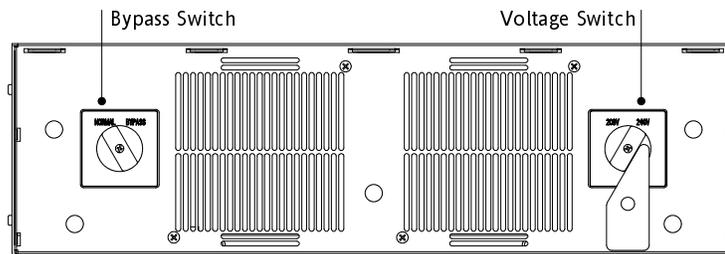

Figure 7. PDM (with Front Panel Removed)
3. Verify that the Bypass switch on the PDM is in the NORMAL position (see Figure 7).
4. **For 208V input only.** If you need 240V output with a 208V UPS input voltage, move the PDM voltage switch to the 208V position (see Figure 7).